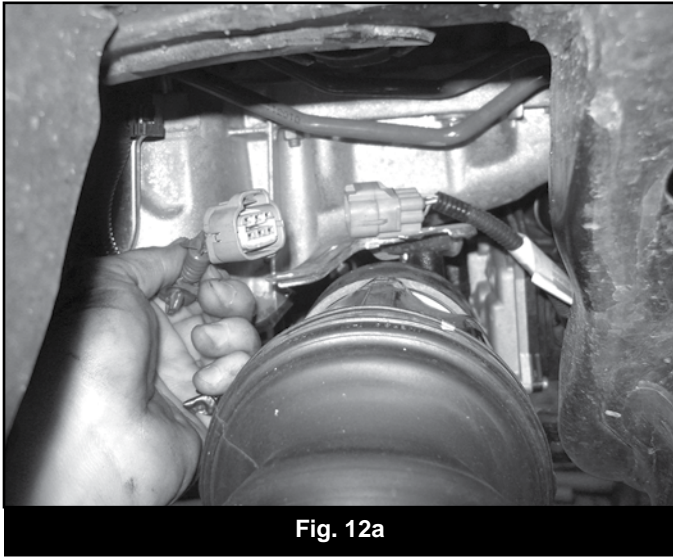

Fig. 12a
19. Disconnect the wiring harness from the differential, it is easiest to disconnect above the passenger's side mount. Remove the nut on top of the differential that attaches the diff. breather and vacuum line. Disconnect vacuum and breather line from differential. Retain bolt. (Fig 12a, 12b)